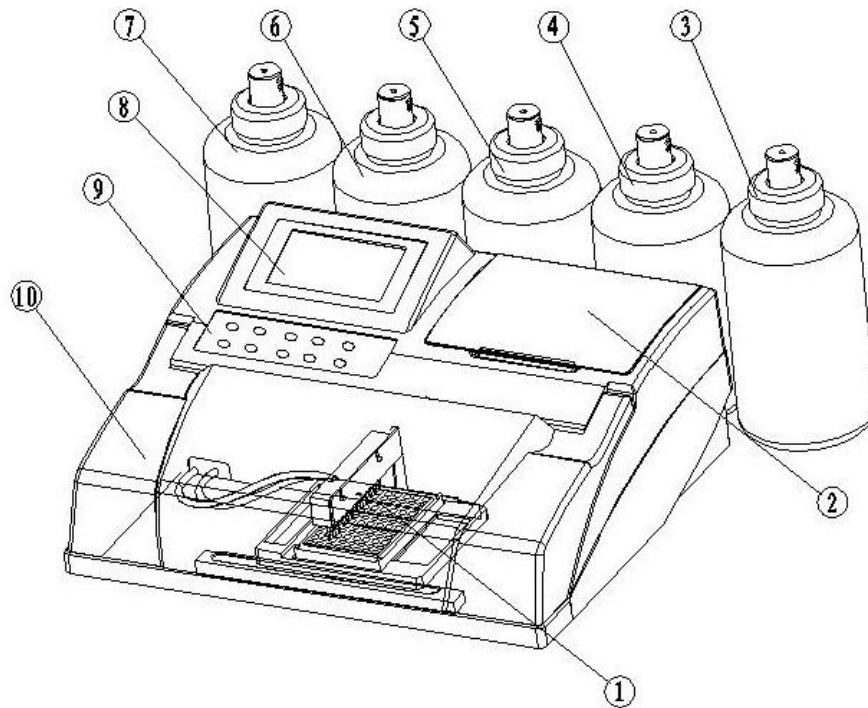
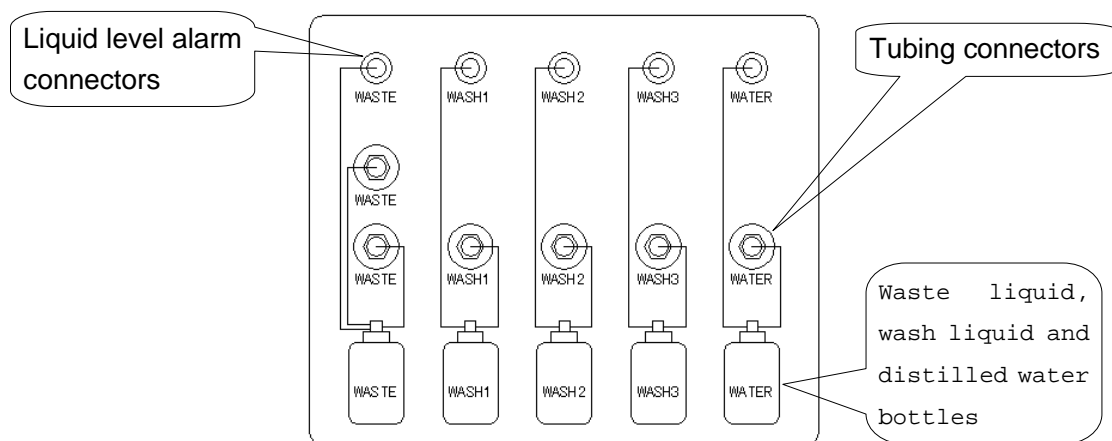

Fig. 1-1 Front view of instrument
Fig. 2-1 Wiring diagram of tubing and alarm signals
- Install the bottle: Towards the rear side of the instrument, from left to right sequentially put the waste bottle, wash bottle 1, wash bottle 2, wash bottle 3 and distilled water bottle, as shown in Fig. 1-1 and Fig. 2-1.
- Connect the signal line: As shown in Fig. 2-1, in the face of the rear side of the instrument, from left to right, connect the signal lines of the waste bottle, wash bottle 1, wash bottle 2, wash bottle 3 and distilled water bottle according to the sequence of the bottles.